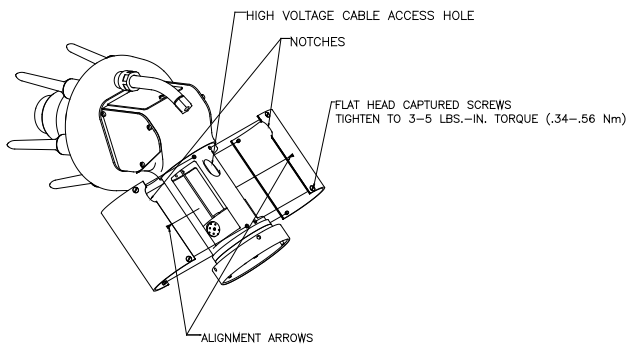

Figure 25: Shroud Removal
To remove the fluid tips, use the tip/tube removal tool (A11229-00). Insert the tool over the tip and engage the four (4) prongs of the tool into the four (4) slots in the tips (see Figures 25 and 26).